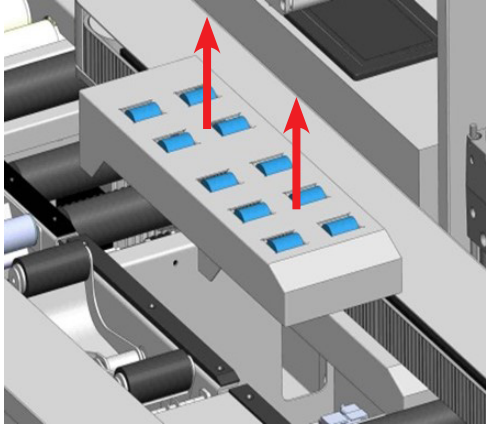

Figure 54: Remove Covers
1. Remove side covers on both sides of tape head, (refer to Figure 54).